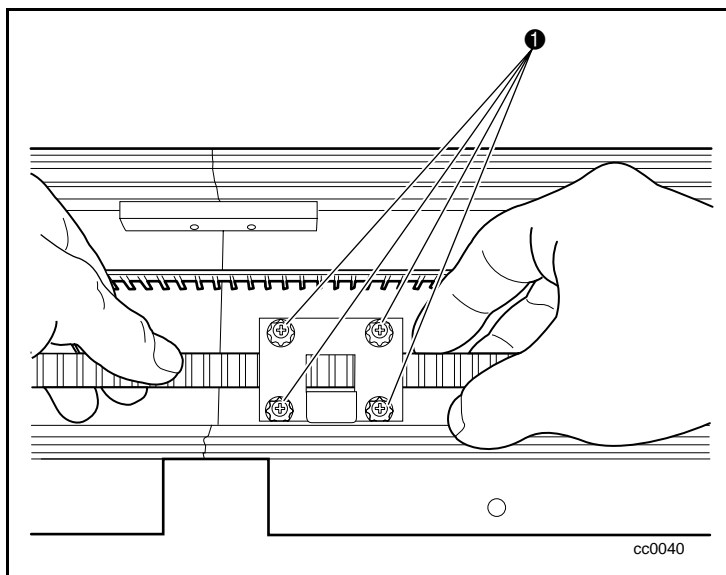

Figure C-21. Replacing the bottom pulley end cap
5. Replace the bottom pulley end cap, securing it with self-tapping screws on both sides (❶ Figure C-21).
3. Loosen the retaining screws to remove the two belt clamp plates (see Figure C-21).